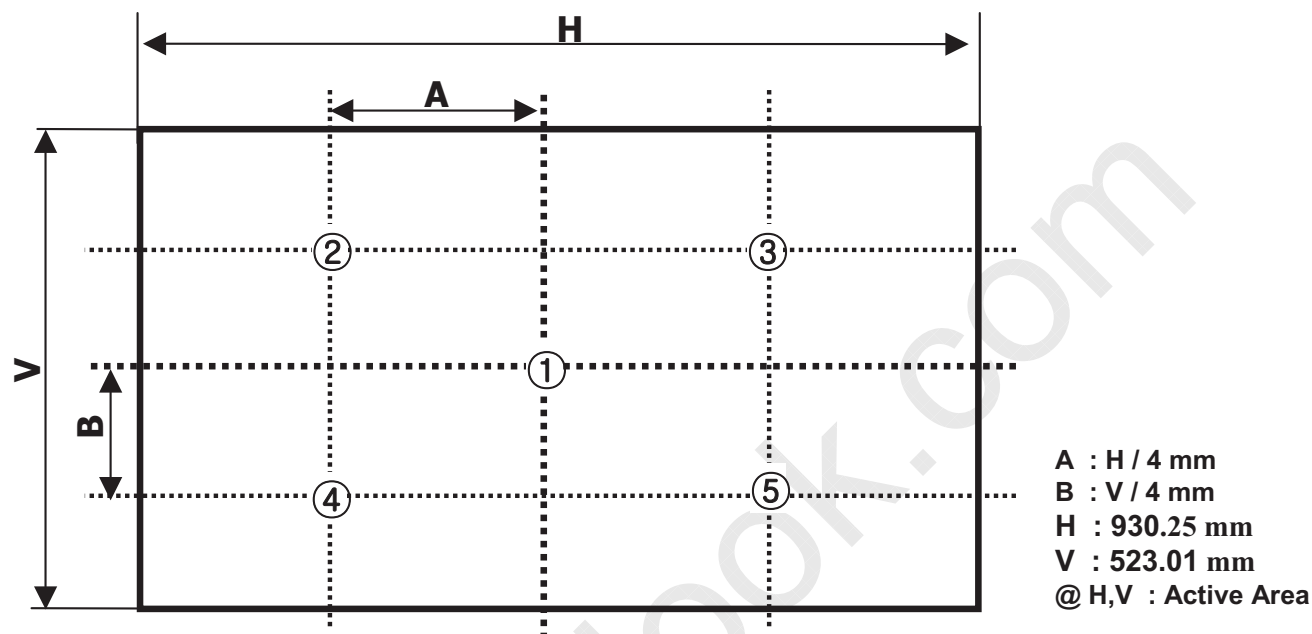

FIG.2 Measure Point for Luminance
n = the Position number(1, 2, 3, 4, 5). For more information, see FIG 2.
2. Surface luminance are determined after the unit has been 'ON' and 30min after lighting the backlight in a dark environment at $25 \pm 2^\circ\text{C}$. Surface luminance is the luminance value at center 1-point across the LCD surface 50cm from the surface with all pixels displaying white. For more information see the FIG. 2.
For more information, see the FIG. 2.